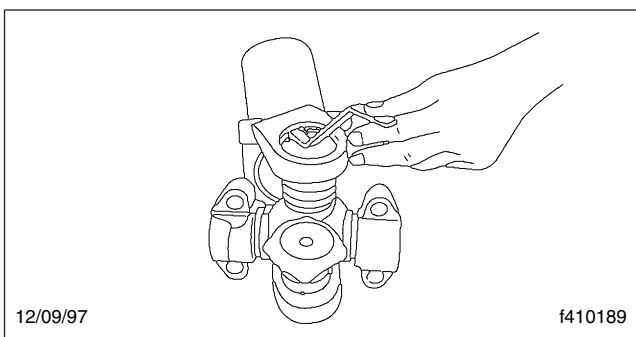

Fig. 14, Checking Snap Ring Installation
- 4.5 Use a snap ring installation gauge to check that the snap ring is fully seated in the snap ring groove. See **Fig. 14**.